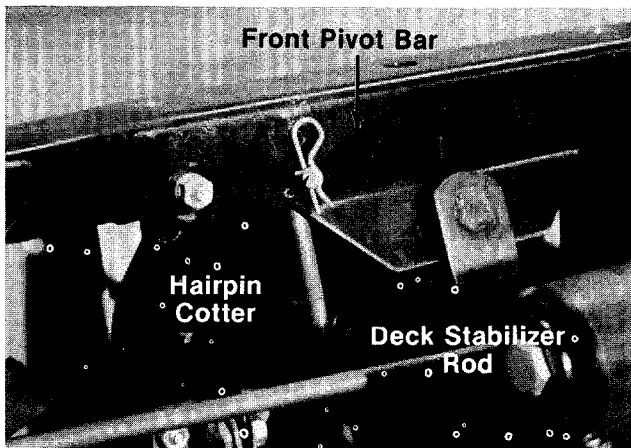

FIGURE 33.
1. Remove hairpin cotter from deck stabilizer rod at the front pivot bar. See figure 33.